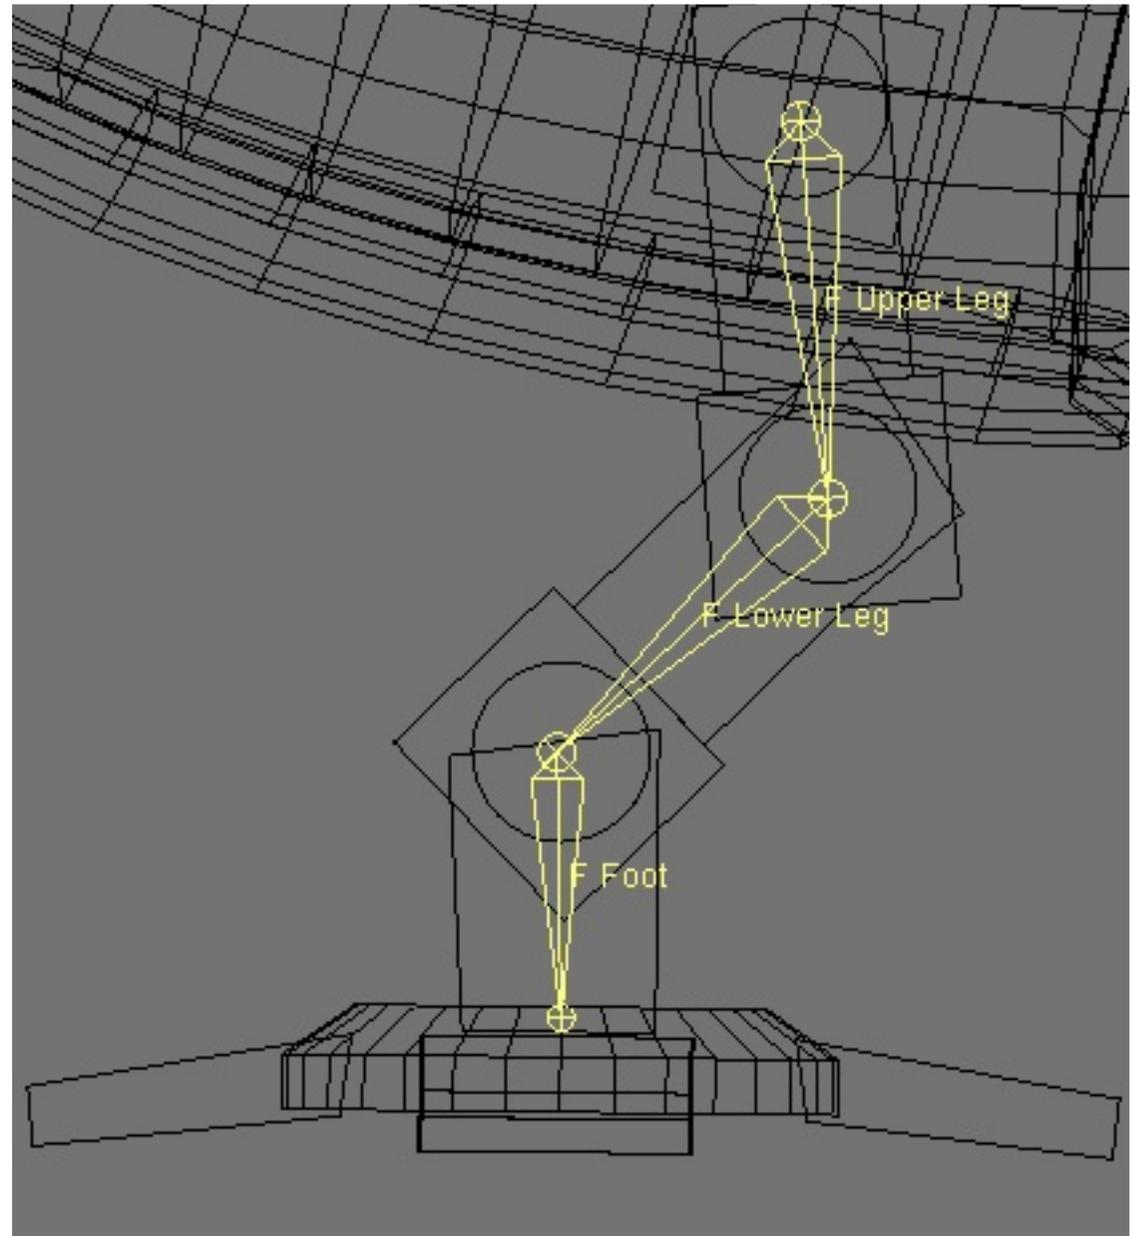

Fig 4. The bones added to the mesh. They are named the same as the mesh objects that will be parented to them.
**13.** Start at the front landing gear. Select the F Upper Leg and hit Shift-S and select Curs->Sel Your cursor should snap to the upper leg rotation point. Add an armature and draw in three bones. Name these the same as the mesh names. It makes it much easier when you are parenting everything later on. So you should have three bones called F Upper Leg, F Lower Leg and F Foot. Make sure that the bones are at the pivot points of the landing gear objects. See Figure 4.